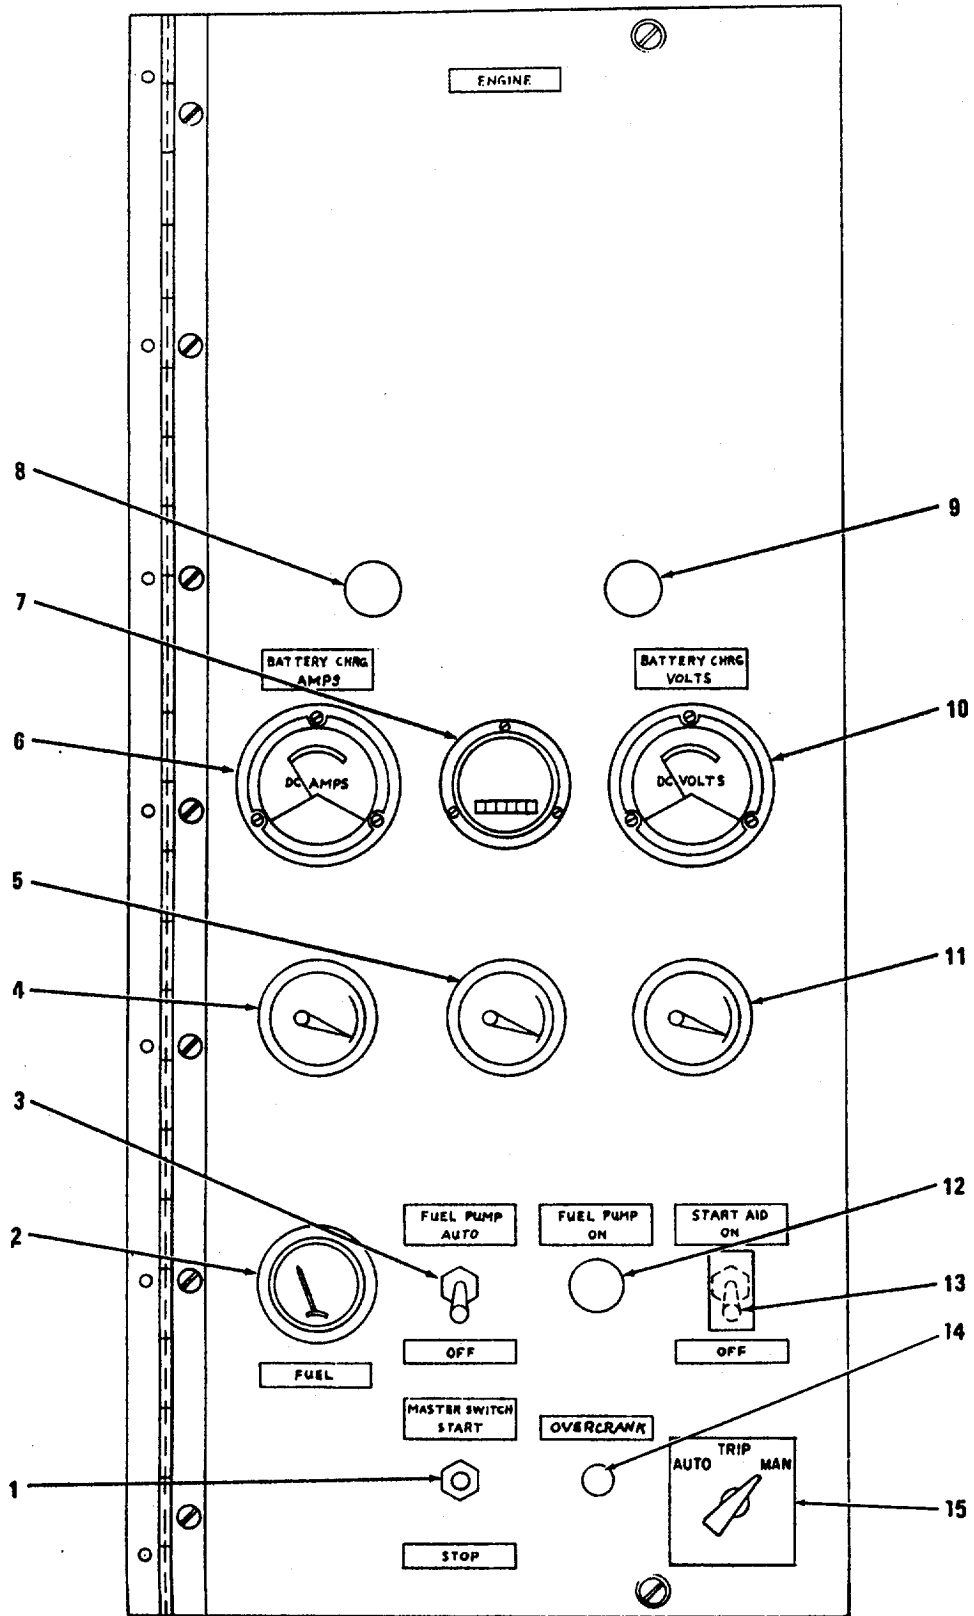

Figure 2-1. Engine Control Panel (Part of Control Cubicle)
**2-2.** The purpose and location of generator set controls and instruments are described in tables 2-1 through 2-4 and illustrated in figures 2-1 through 2-4.